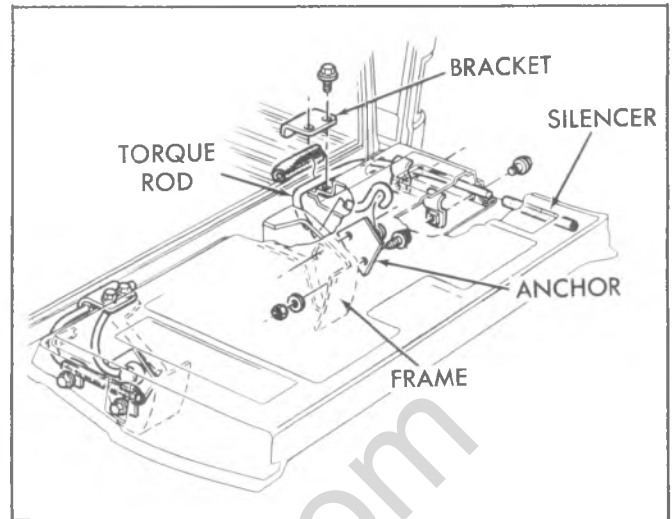

Fig. 2D-65--Torque Rod Installation (14)
7. Lift torque rod up and slide from endgate as shown in figure 2D-66.